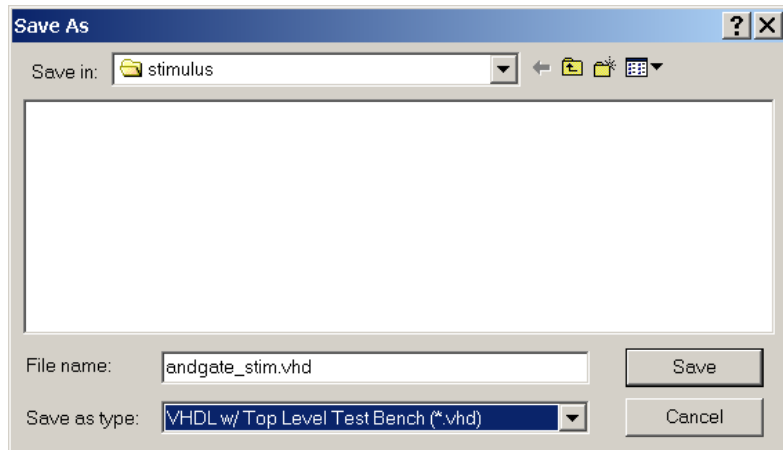

Figure 5-8. *andgate_stim.vhd*
4. Select “VHDL w/ Top Level Test Bench (*.vhd)” in Files of Type and enter *andgate_stim.vhd* for the file name, as shown in Figure 5-8.